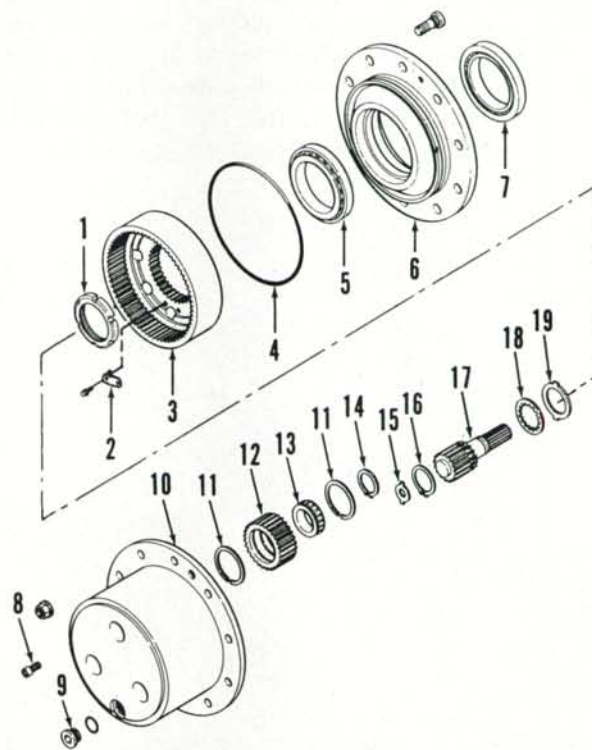
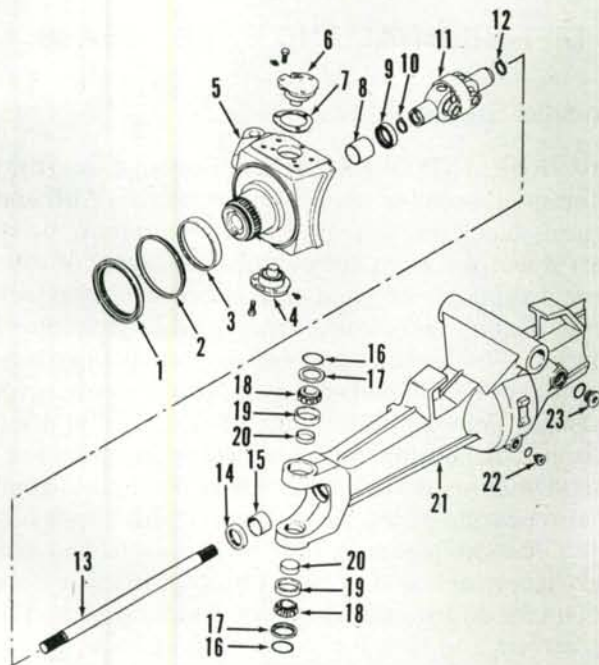

Fig. 6—Exploded view of wheel hub and planetary unit used on front drive axle.
Fig. 7—Exploded view of pivot housing and components used on front drive axle.
8. R&R AND OVERHAUL. To remove the wheel hub and planetary, support axle housing and remove wheel and tire assembly. Rotate wheel hub until drain plug (9—Fig. 6) is at bottom, remove plug and drain oil. Remove the two socket head screws (8), then remove planetary carrier (10). Unbolt and re-
move lockplate (2). Using a spanner wrench CAS-1762 or equivalent, remove slotted nut (1). Remove ring gear (3), outer bearing cone (5), hub (6) and inner bearing cone (7). If necessary, remove bearing cups (5 and 7), oil seal (1—Fig. 7) and dust seal (2) from hub. Sun gear (17—Fig. 6) is secured to axle shaft “U” joint (11—Fig. 7) with a snap ring (10). If necessary to remove sun gear, remove pivot housing (5) as outlined in paragraph 9.
To remove planetary gears (12—Fig. 6), remove snap rings (14) and slide gear and bearing assemblies from carrier (10). Remove tapered retaining ring (11) and slide bearing (13) from gear (12). Repeat operation for other two gears. Remove thrust washer (15) from center of carrier.
Subtract correct end play from the predetermined distance axle shaft and sun gear is free to travel to determine correct thickness of thrust washer (15—Fig. 6) to be installed. Thrust washers are available in thicknesses of 0.059, 0.067, 0.079, 0.087, 0.098 and 0.118 inch (1.5, 1.7, 2.0, 2.2, 2.5 and 3.0 mm).
When reassembling, install new wear ring (3—Fig. 7) and bearing cone (7—Fig. 6) on pivot housing. If removed, install bearing cups (5 and 7) in hub (6). Install new oil seal (1—Fig. 7) and dust seal (2) in hub. Lubricate seal and install hub and outer bearing cone (5—Fig. 6). Install ring gear (3) and slotted nut (1). Using a spanner wrench CAS-1762, tighten slotted nut until a rolling torque of 8.9-13.3 ft.-lbs. (12-18 N·m) with new bearings or 6.7-8.9 ft.-lbs. (9-12 N·m) with used bearings, is required to rotate hub. Use special tool CAS-1768 to check rolling torque. When rolling torque is correct, secure with lockplate (2) and cap screws tightened to a torque of 70 ft.-lbs. (96 N·m). Install new "O" ring (4) on hub (6). Use grease to stick predetermined thrust washer (15) in place in carrier (10), then install carrier on hub. Install the two socket head cap screws (8) and tighten to a torque of 70 ft.-lbs. (96 N·m). Rotate hub until the filler (drain) hole is horizontal to center of hub. Fill hub with GL5 85/140 EP gear oil to filler plug opening. Capacity is 1.5 U.S. quarts (1.4 L). Install plug (9). Install wheel and tire assembly and tighten wheel hub nuts to a torque of 115-130 ft.-lbs. (156-176 N·m). Lower tractor to the ground.
9. REMOVE AND REINSTALL. To remove the pivot housing (5—Fig. 7), first remove the wheel hub and planetary as outlined in paragraph 8. Remove snap ring (16—Fig. 6), splined thrust washer (18) and thrust washer (19) from sun gear (17). Disconnect tie rod end from arm on pivot housing. Unbolt upper and lower pivot pins (6 and 4—Fig. 7), then remove pivot pins with "O" rings (16), seal caps (17) and bearing cones (18). Keep shims (7) with upper pivot pin. Remove pivot housing (5), then withdraw sun gear, "U" joint and axle shaft assembly from axle housing. Drive out cup plugs (20) and remove bearing cups (19). Remove bearing cones (18), seal caps (17) and "O" rings (16) from pivot pins. Remove oil seals (9 and 14) and if necessary, remove sleeve bearings (8 and 15).
Install thrust washer (19—Fig. 6), splined thrust washer (18) and snap ring (16). Reinstall wheel hub and planetary as outlined in paragraph 8. Connect tie rod end to steering arm on pivot housing and tighten nut to 100-125 ft.-lbs. (136-169 N·m) torque.
10. R&R AND OVERHAUL. To remove the front differential assembly, place transmission in PARK and securely block rear wheels. Unbolt and remove drive shaft shield and front drive shaft. Raise front of tractor and support each end of axle housing with jack stands. Unbolt and remove front wheels. Disconnect steering cylinder lines and cap or plug all openings. Disconnect tie rod ends from steering arms on pivot housings. Remove drain plug (22—Fig. 7) and drain oil from axle housing. Attach a hoist to planetary hub. Unbolt and remove upper and lower pivot pins (6 and 4) with bearing cones. Keep shim (7) with upper pivot pin. Remove planetary hub, pivot housing and axle shaft from each end of axle housing. Place a floor jack under differential assembly, remove differential cap screws and install a guide stud at each side of differential housing. Separate differential housing from axle housing and using the floor jack, remove assembly from tractor.